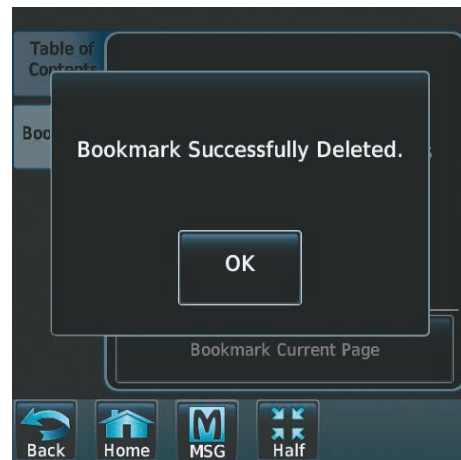

Figure 8-120 Bookmark Deleted
- 4) Touch **OK** on the confirmation screen as in Figure 8-120.